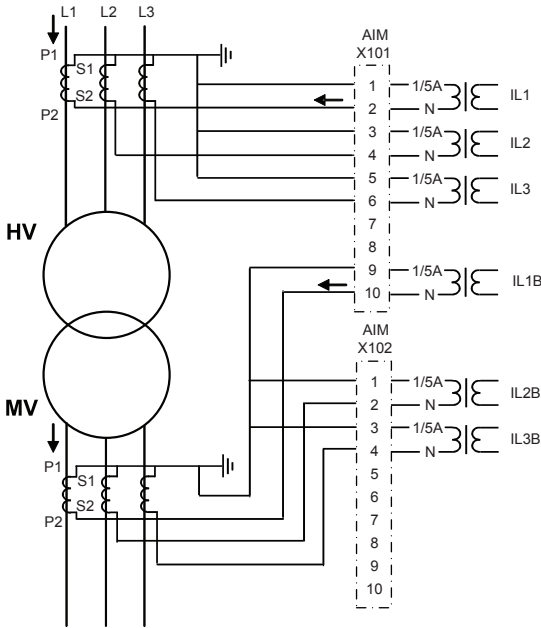
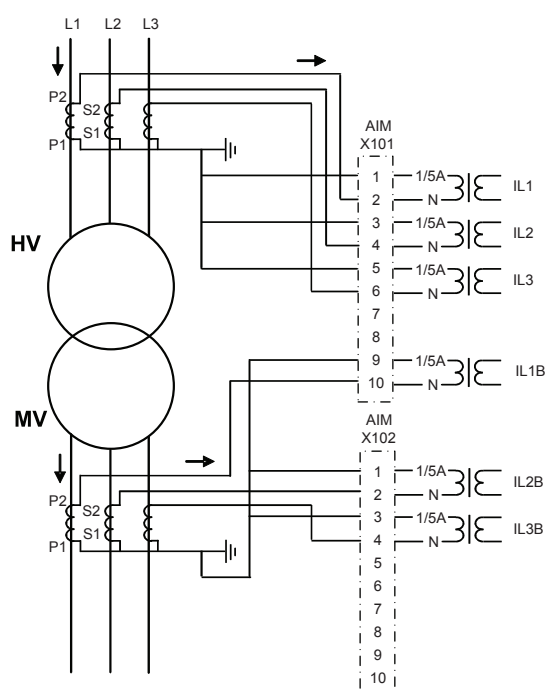

Figure 289: Connection example of current transformers of Type 2
Figure 290: Alternative connection example of current transformers of Type 2
- If the positive directions of the winding 1 and winding 2 IED currents equate, the *CT connection type* setting parameter is "Type 2". The connection examples of "Type 2" are as shown in Figure 289 and Figure 290.